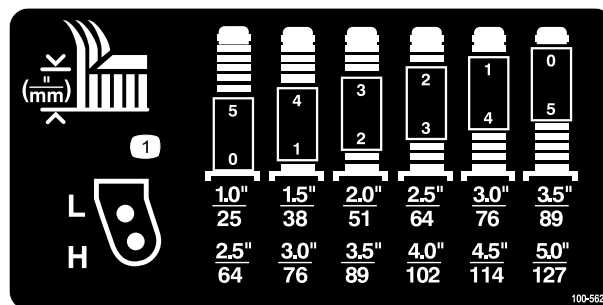

Figure 8
2. Position the castor wheel axles in the same holes in both castor forks. Refer to Figure 7 & Figure 8 to determine the correct holes for the setting.
Refer to Figure 7 & Figure 8 to determine the combinations of spacers for the setting.